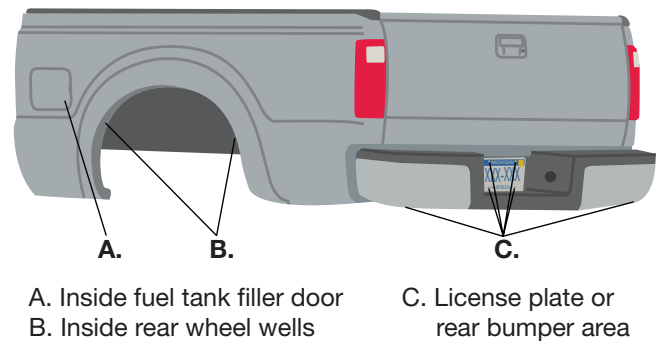

Fig. 28
1. Choose the locations for the Schrader valves and drill a 5/16" (8mm) hole, if necessary (Fig. 28).